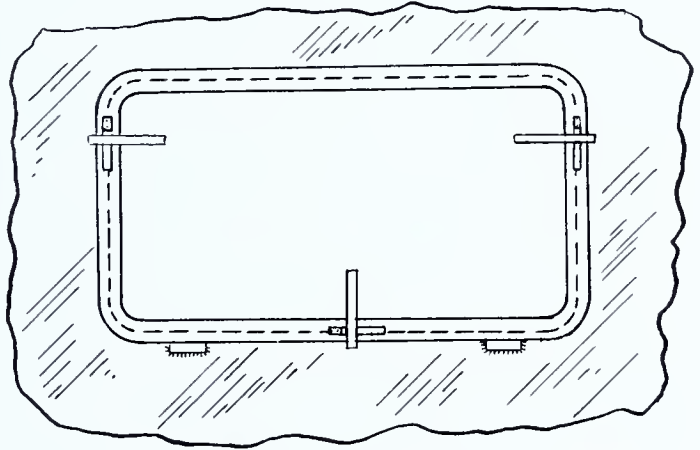

FIG. 600 — *Support Ring Dogged in Place*
2. Fit, support with clips (Fig. 600), dog ring to shell (Figs. 599 and 600), and tack weld as shown in Fig. 599.